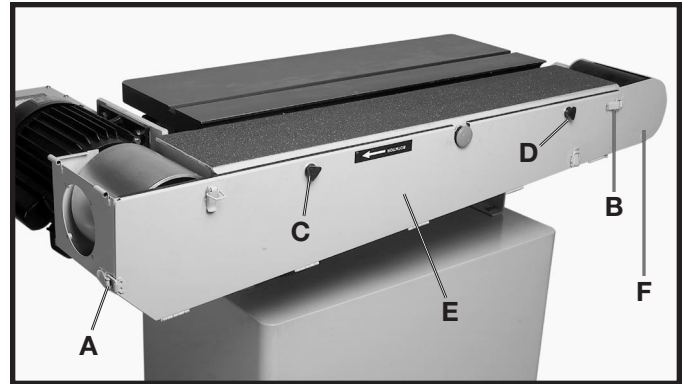

Fig. 6
1. Remove knobs (C) and (D) Fig. 6.
2. Open latch (B) Fig. 6, and carefully lower cover (F).
3. Open latch (A) Fig. 6, and carefully lower cover (E).